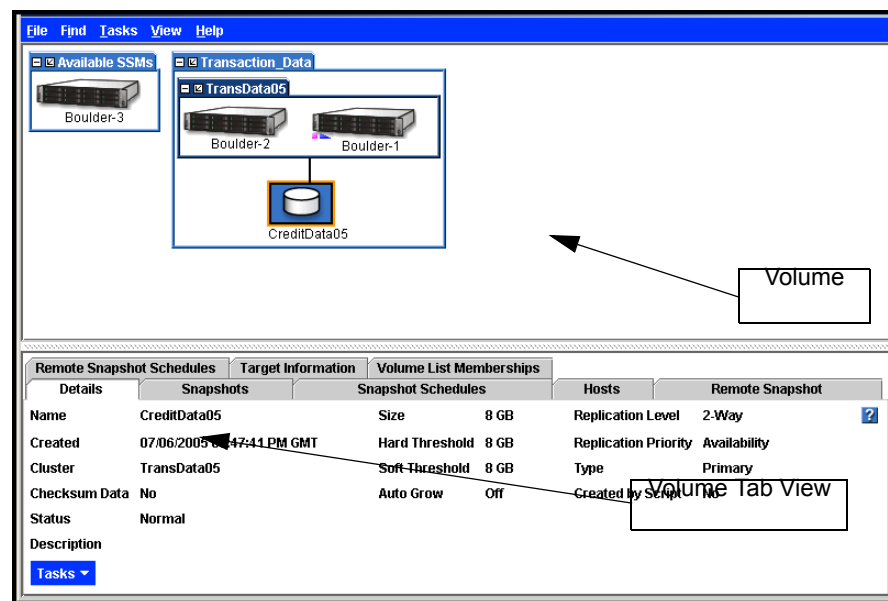

Figure 171. Viewing a Volume in a Cluster
16. Click OK. The Storage System Software creates the volume and it is attached to the cluster, shown in Figure 171.
17. Select the new volume in the Network View. The volume Tab View opens, also shown in Figure 171.